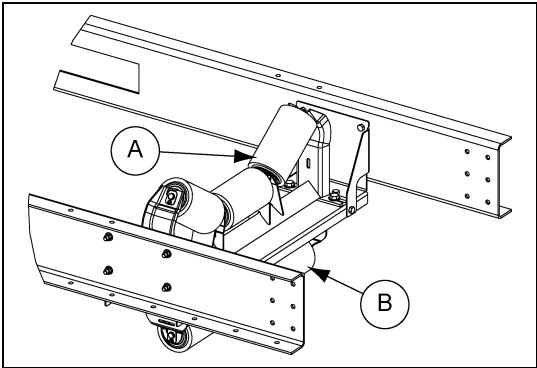

Figure 4G
The idlers are shipped completely assembled from InterSystems. Figure 4G shows a typical troughing (A) and return idlers (B) as shipped from the factory.